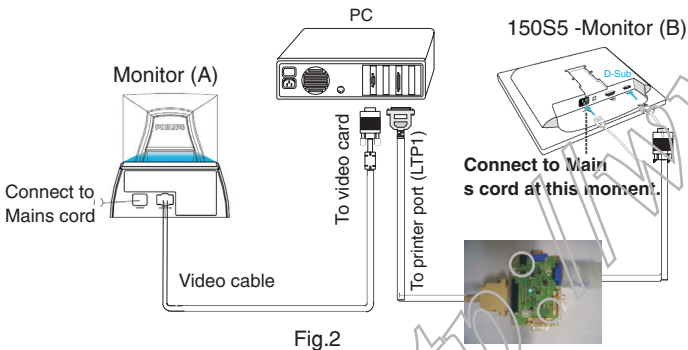

Fig.2
5. Connect **DDC2BI_ISP TOOL** and Mains cord to Monitor as shown in Fig. 2.